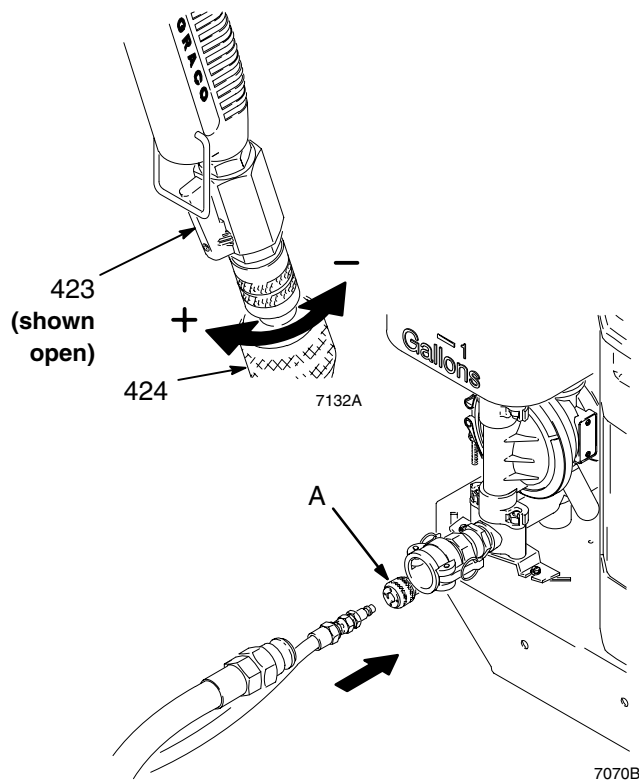

Fig. 2
1. Connect the air hose to the air outlet (A) and to the gun air inlet. Open gun air valve (423), and turn air restrictor valve (424) all the way to the + position. See Fig. 2.